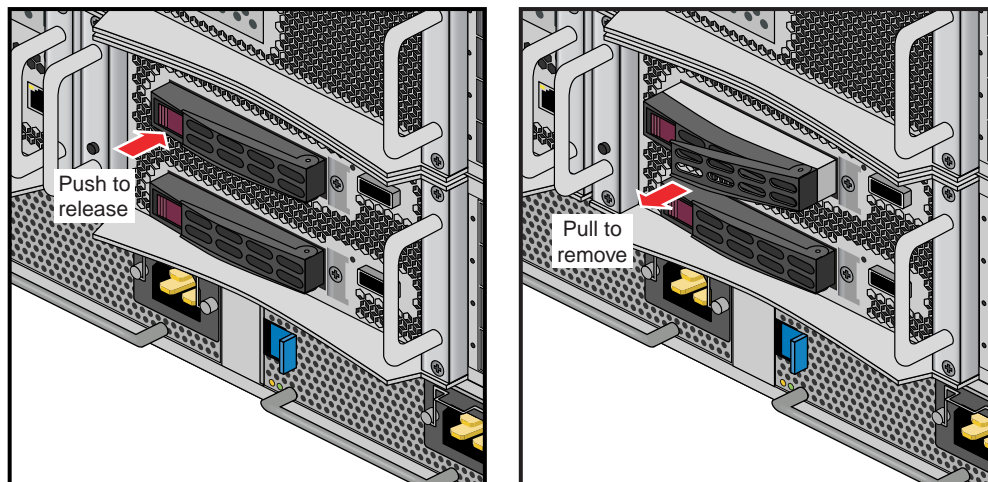

Figure 6-9 Removing the UV 2000 System Disk Example
The dual-disk drive blade is used to house two system disk drive bays as shown in Figure 6-9 on page 76. This section describes how to install or remove the drives. The blade supports RAID 1, RAID 0 and JBOD disk drives.
1. Press in and down on the red button until the handle is released, see Figure 6-9 on page 76 for an example.